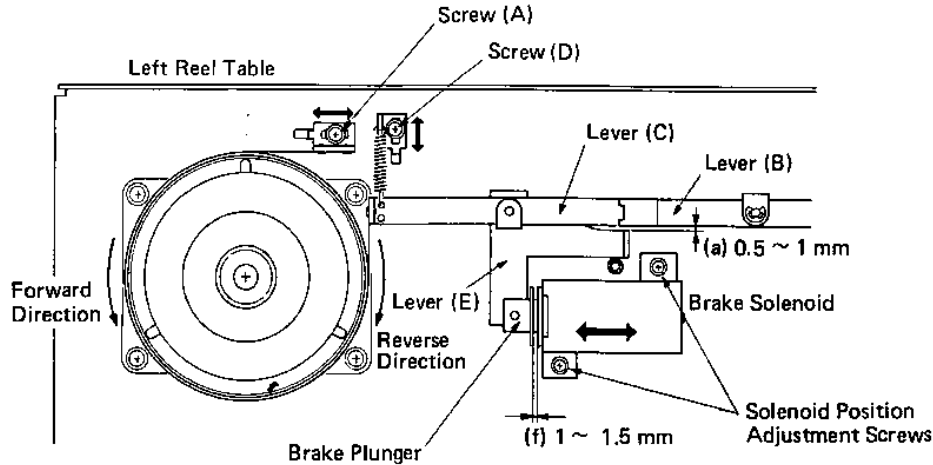

FIG. 15. BRAKE MECHANISM & TORQUE ADJUSTMENTS
1. Refer to Fig. 15 and adjust screw (A) so clearance (a) is within 0.5 and 1 mm. If adjusting the (A) screw does not provide any clearance, it will be necessary to move the brake solenoid until gap (f) (plunger and washer distance) is within 1 and 1.5 mm.
2. Adjust screw (A) of the right brake assembly (not shown in the figure) so lever (B) is parallel to lever (C).
3. If forward brake torque is not within specifications, adjust the spring hanger hooking position by loosening screw (D) shown in Fig. 15. If this adjustment has no effect or